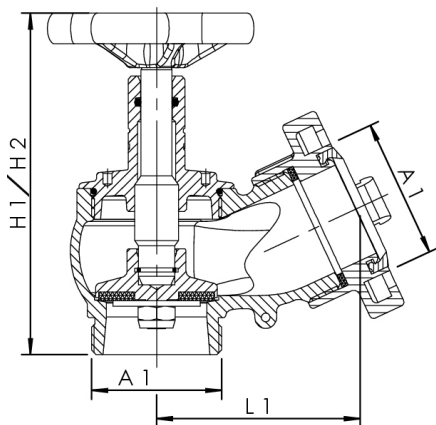

Fig. 112 00 | 112 02
|                         | Fig. 112 00 | Fig. 112 02 |
- 2" FPT to 2" MPT; Figure 112 05 050
- 2" FPT to 2" FPT; Figure 112 06 050
| Fig. 112 05 050 | assembly screw connection 2" FPT to 2" MPT, brass |
| Fig. 112 06 050 | assembly screw connection 2" FPT to 2" FPT, brass |